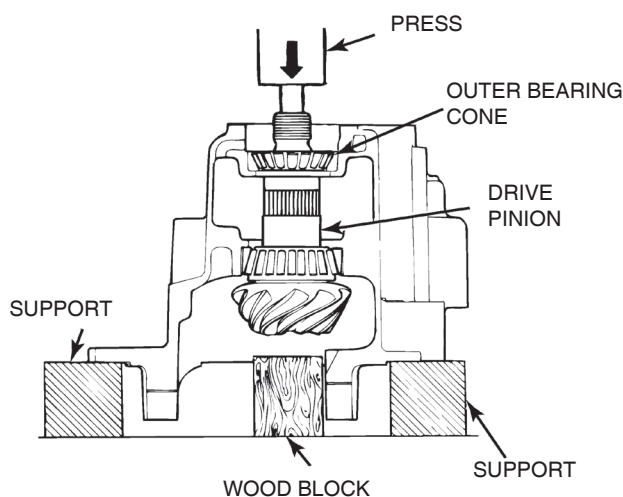

Figure 5.11
1. Place the differential case in the press so that the threaded end of the pinion is UP. Place supports under the flange of the differential case so that the case is level. Place a wood block under the head of the pinion. Figure 5.11.
2. Press the drive pinion out of the outer bearing cone. Remove the cone. Figure 5.11.